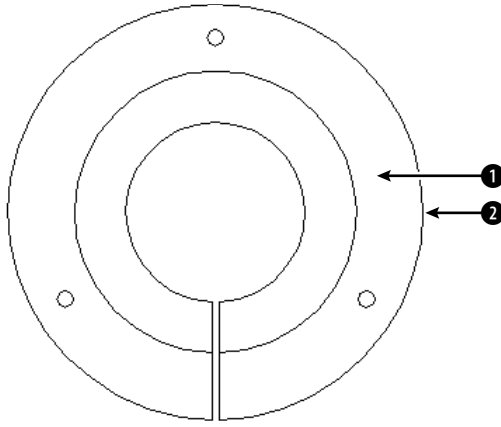

Figure 16-15: A bushing.
2. Save the file as **ab16-05.dwg** in your **AutoCAD Bible** folder. This is a bushing, shown in Figure 16-15.
5. At the Select internal point: prompt, choose ① in Figure 16-15.